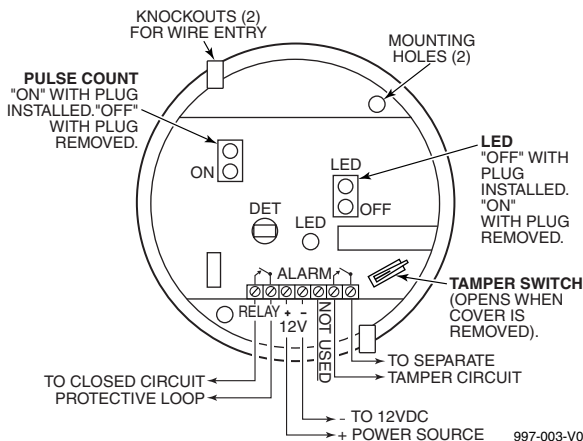

Figure 3. PC Board (in base of PIR)
- Break out one of the two knockouts that have been provided for wire access (see Figure 3), and pass the wires into the base of the PIR. *Caution: Be certain that wires do not obstruct the detector's field of view.*
- Connect all wires to the screw terminals (see Figure 3 for wiring details). Seal all openings in the base with foam or RTV (not supplied) to prevent drafts or insects from entering the unit.
The detector is shipped with the Alarm LED disabled (LED enable/disable plug in place). The LED should be enabled (for a walk-test) by removing the LED enable/disable plug (see Figure 3 for location). To prevent the loss of the plug, we suggest you install it on one pin when the plug is not in use. When the walk-test is completed, the LED may be disabled, if desired (plug in place).
This PIR is equipped with a cover tamper switch. With cover on, the switch is closed; when cover is removed, the switch opens. The tamper terminals (see Figure 3) should be connected to the control panel's tamper loop.
Each detector includes Pulse Count circuitry that is designed to provide stability in adverse environments to minimize false alarms. Two-event pulse count is provided by positioning the jumper plug across the pulse count pins (see Figure 3 for location). To select one-event pulse count (instant response), remove the jumper plug. When programmed for 2-event pulse count, the detector will signal an alarm within 3 or 4 steps, since the processing logic requires more complex motion than just a momentary event. When the detector verifies an intrusion, the LED will light and the alarm relay contacts will transfer, both conditions lasting for approximately 1 to 3 seconds (dependent upon signal strength).